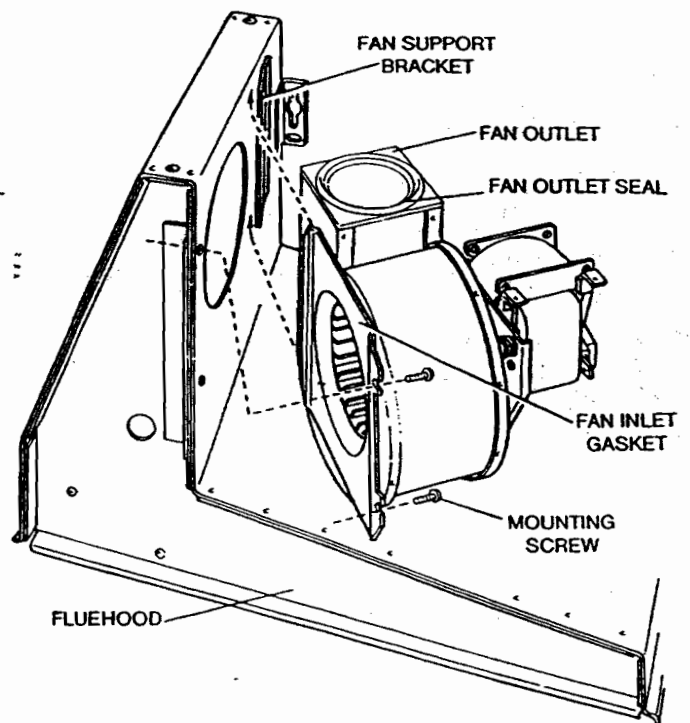

Fig. 29 FAN ASSEMBLY
- b. Fit new fan into position ensure the fan is located correctly (see Fig. 29) and that a good seal is made between the fan outlet and the top of the inner case.